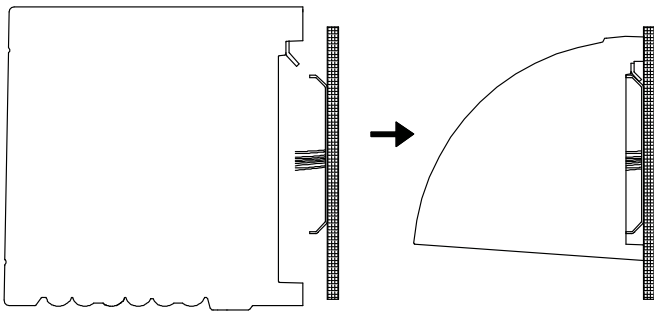

Fig. 6
6. Follow the arrow direction to slide the fixture onto the mounting bracket. (Fig. 6)